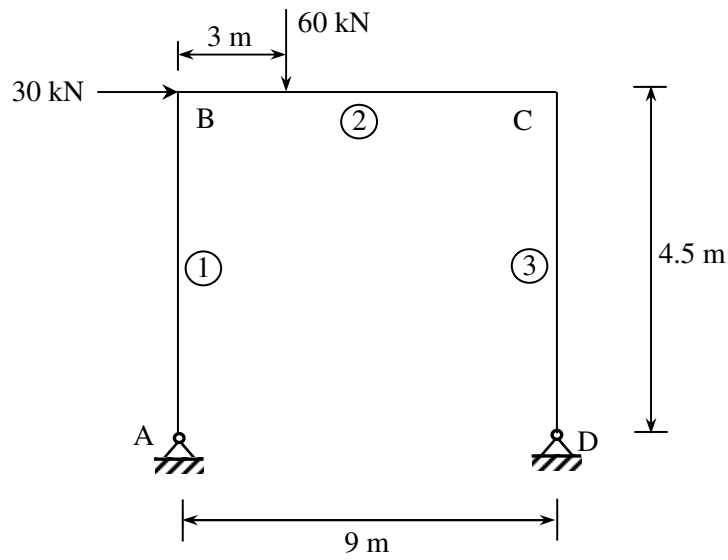

Figure 5
- Q.4** (a) Obtain assembled flexibility matrix for the whole plane frame shown in Figure 5. **06**
- (b) Calculate joint displacements, support reactions and member end-actions for the plane frame shown in Figure 5 using flexibility member approach. **06**